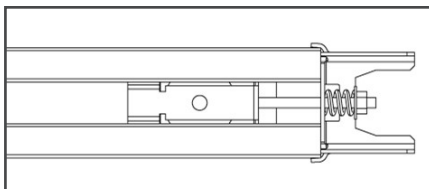

FIGURE 9
3. As Fig.9, release the nut & spring.